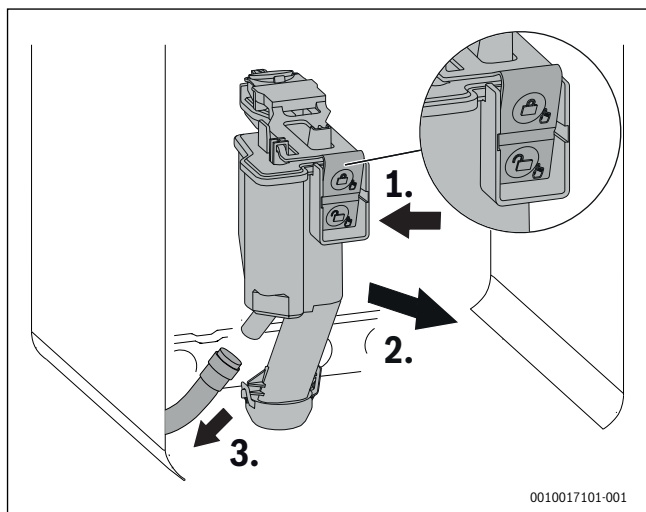

Fig. 90 Removing the condensate trap
- ▶ Remove the condensate trap → Fig. 90.